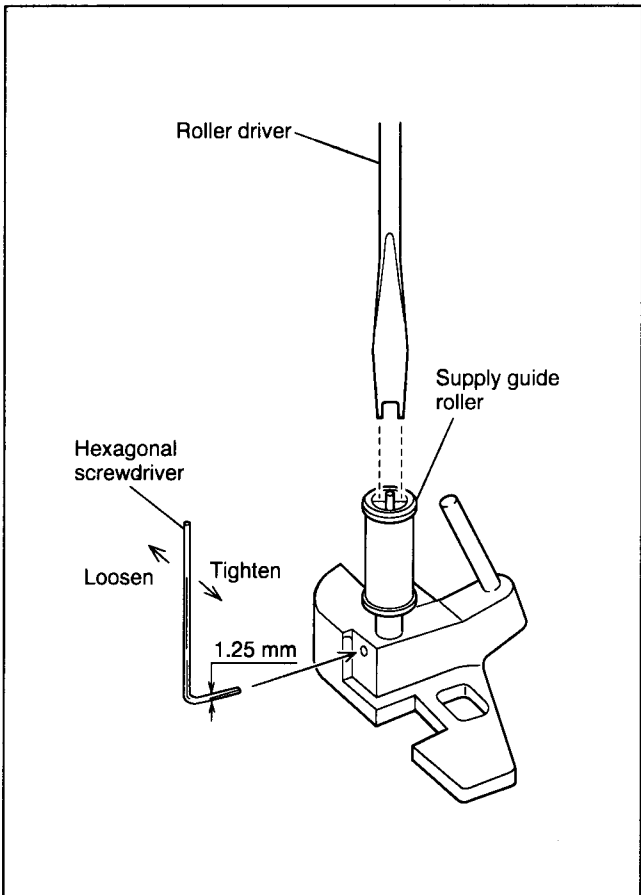

Fig. 2-4-2
- Slightly loosen the set screw under the pole base assembly with a 1.25 mm hexagonal wrench (Take care not to loosen too much). (Fig.2-4-2)